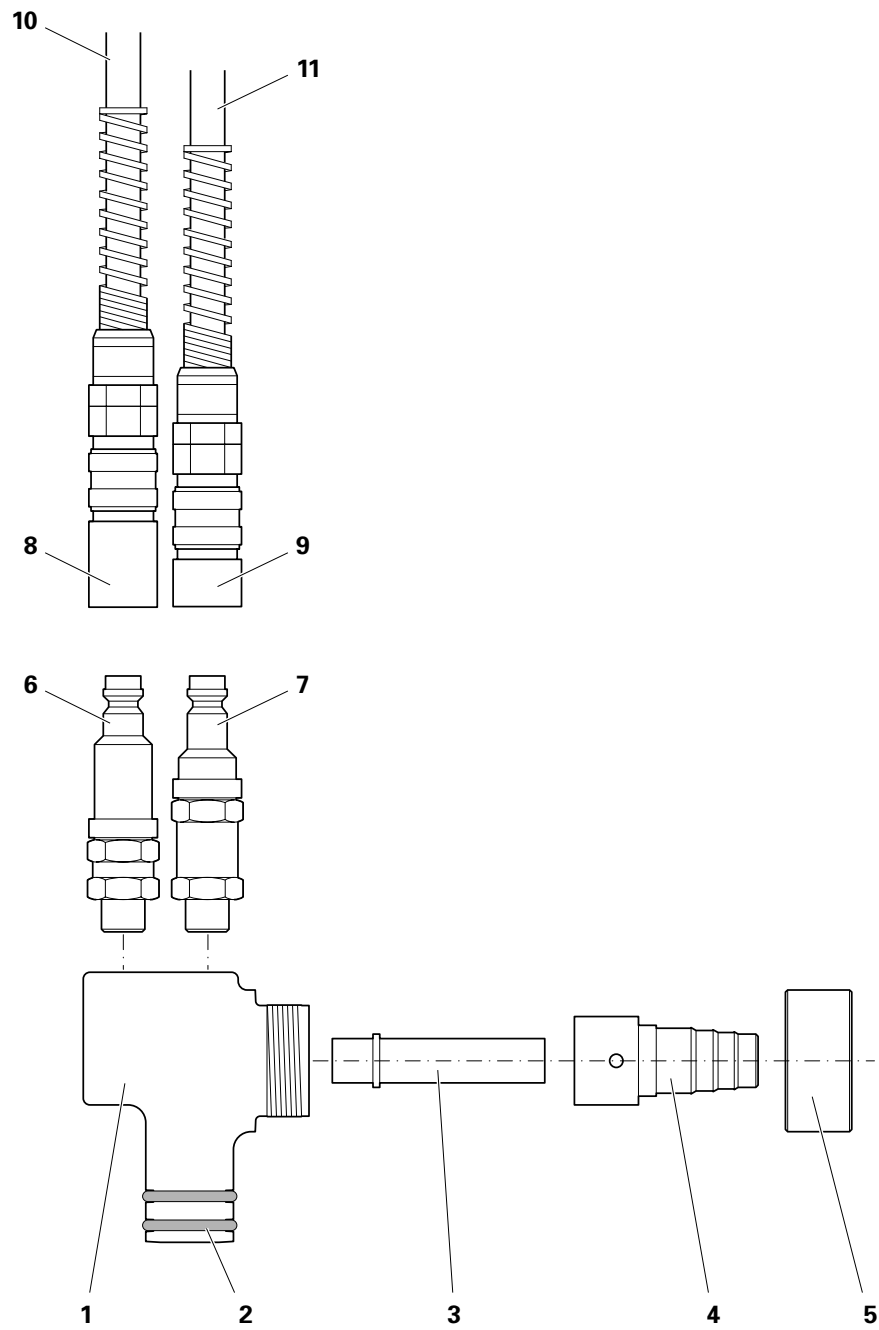

Figure 6
**Once a week, or when extremely contaminated**, the injector should be completely dismantled. See also Figure 6 in the Spare parts list.